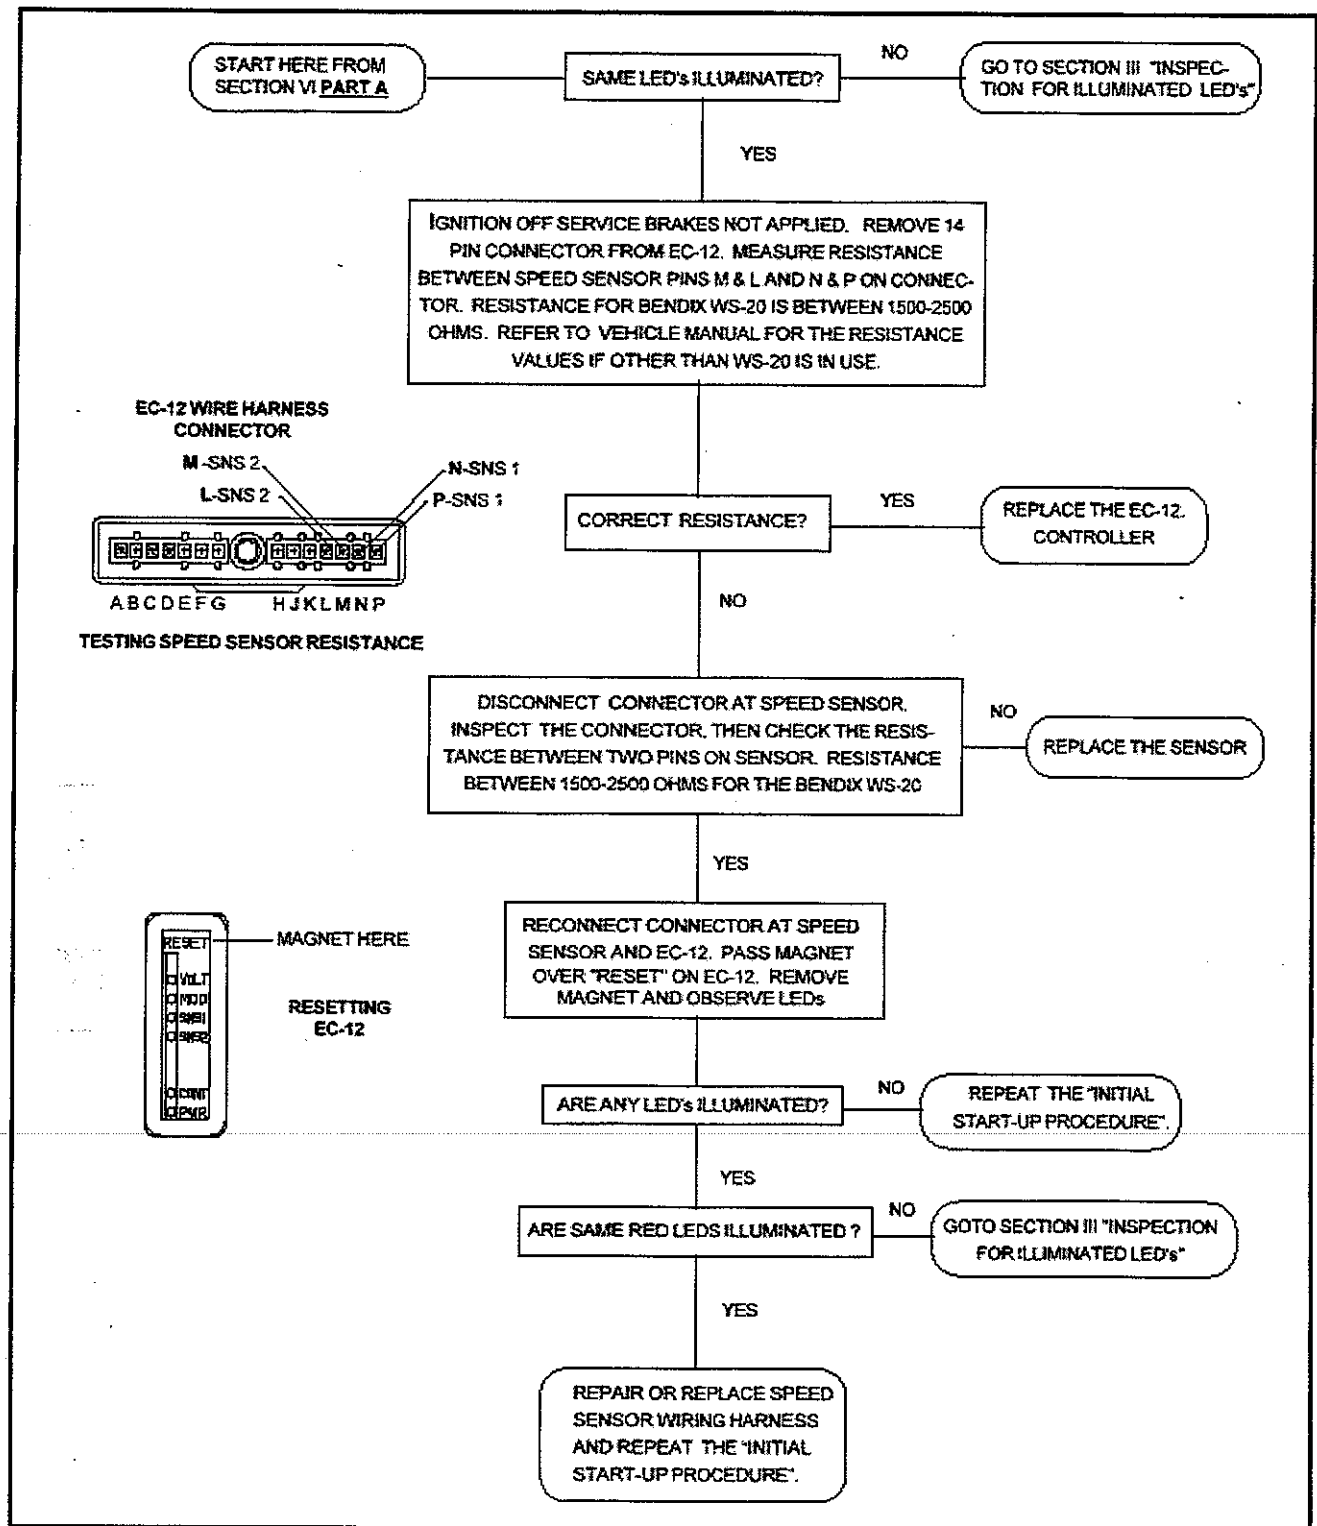

Figure 19—Testing the Wheel Speed Sensor
- See Figure 19—Testing the Wheel Speed Sensor